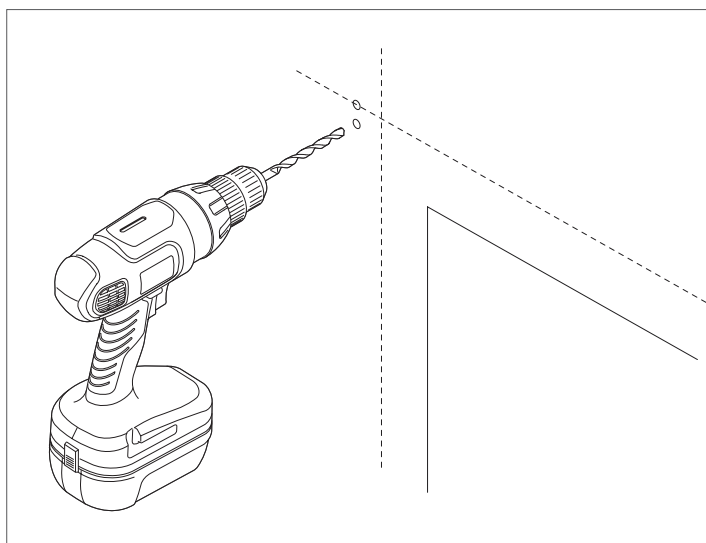

Figure 3
5. Drill out the marked holes using a drill with a 1/4" drill bit. (Figure 3).